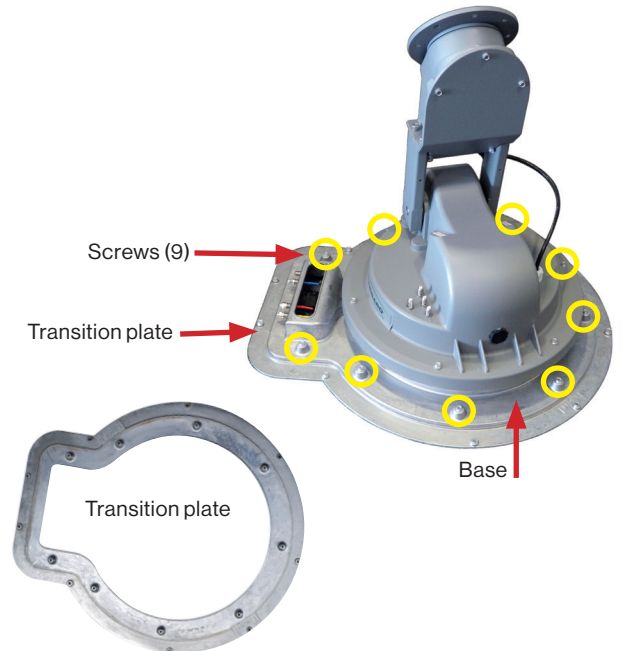

FIGURE 14. Remove turret from transition plate
1. Remove the nine 5/16" screws around the edge of the transition plate (see figure 14).